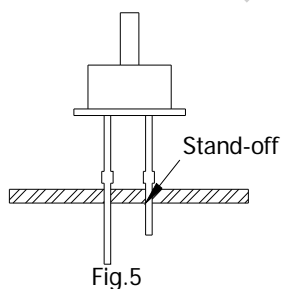
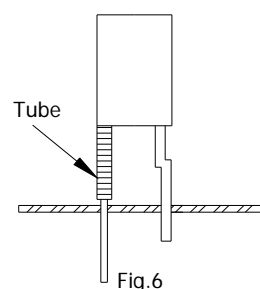

Fig.5
Fig.6
- 4) Use LEDs with stand-off (Fig.5) or the tube or spacer made of resin (Fig.6) to position the LEDs.